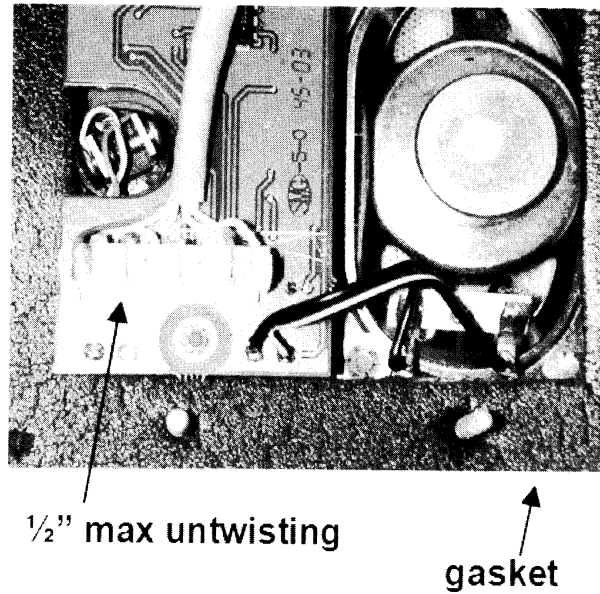

Figure 9 - Trim-Out Door Unit(s)
- Make sure that the included weather proofing gasket is placed over the Door Unit circuit board and speaker before terminating the Cat 5e cable (see **Figure 9**).
- Untwist cable pairs but be sure to leave 1/2" twist in the pairs between the punchdown block and the start of the cable insulation (see **Figure 9**).